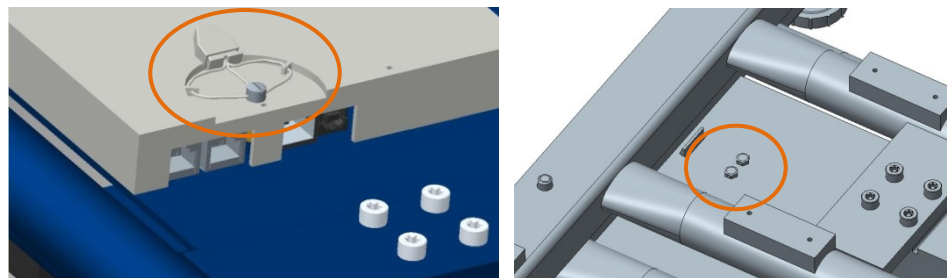

Figure 4-56: BC-15 Sealing
1. Loop the wire through the holding screw for the PCB cover on the bottom of the scale (left, in Figure 4-56).
2. Loop the wire through the two drilled-head screws over the calibration switch (right, in Figure 4-56).